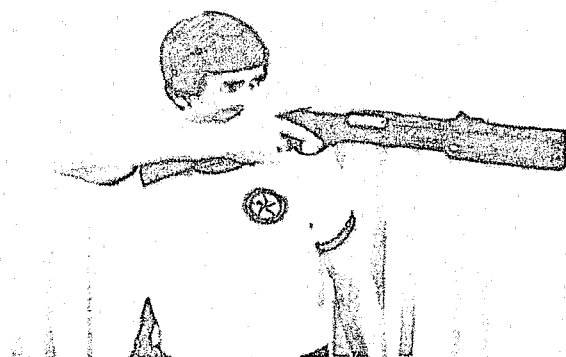

Figure 8-29
A. Mounting the Shotgun (shoulder position) (See Figures 8-29 and 8-30)